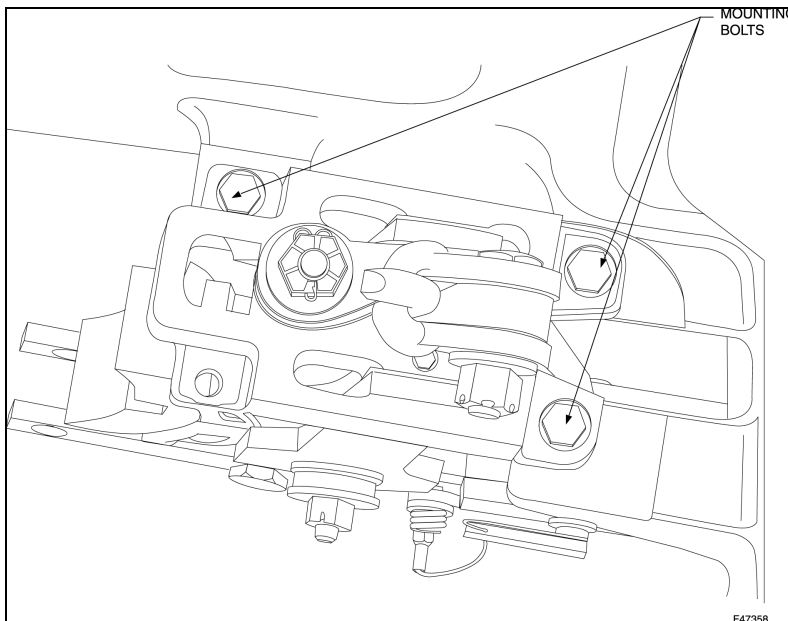

Figure 57 – Brake Lever Assembly Application - Live
- Lift each assembly in step 1 with portable hoist onto the bogie frame positioning the cluster bracket assembly on top of the mounting cluster bracket of the bogie, shown in Figure 57. Line up the three holes of the cluster bracket assembly with those of the bogie frame cluster bracket and apply 3 bolts with 3 new washers.